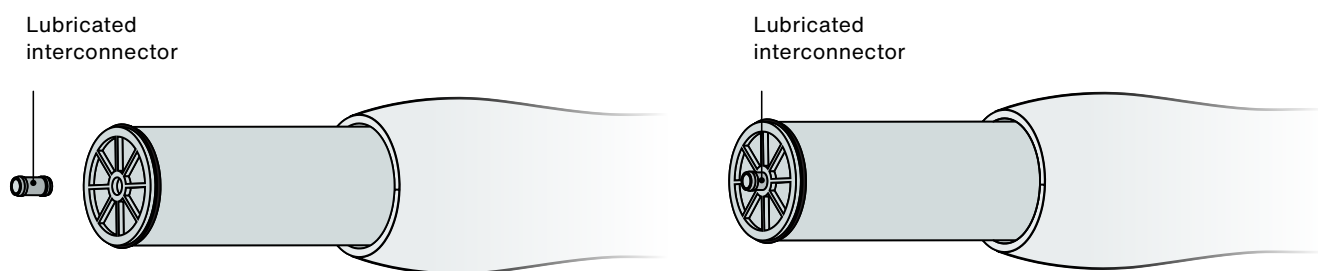
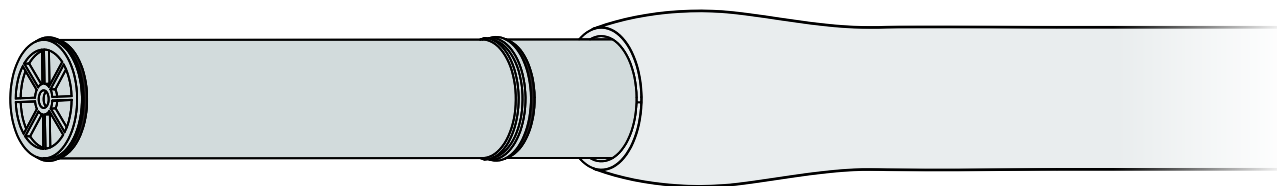

Figure 3: Installation of lubricated interconnector.
Figure 4: Insertion of next RO element.
3. Lubricate the interconnector O-rings and slide the interconnector into the permeate tube of the lag/tail RO element (**Figure 3**). Lift the next element and install the trailing end on the interconnector while holding the previous element in place (**Figure 4**).